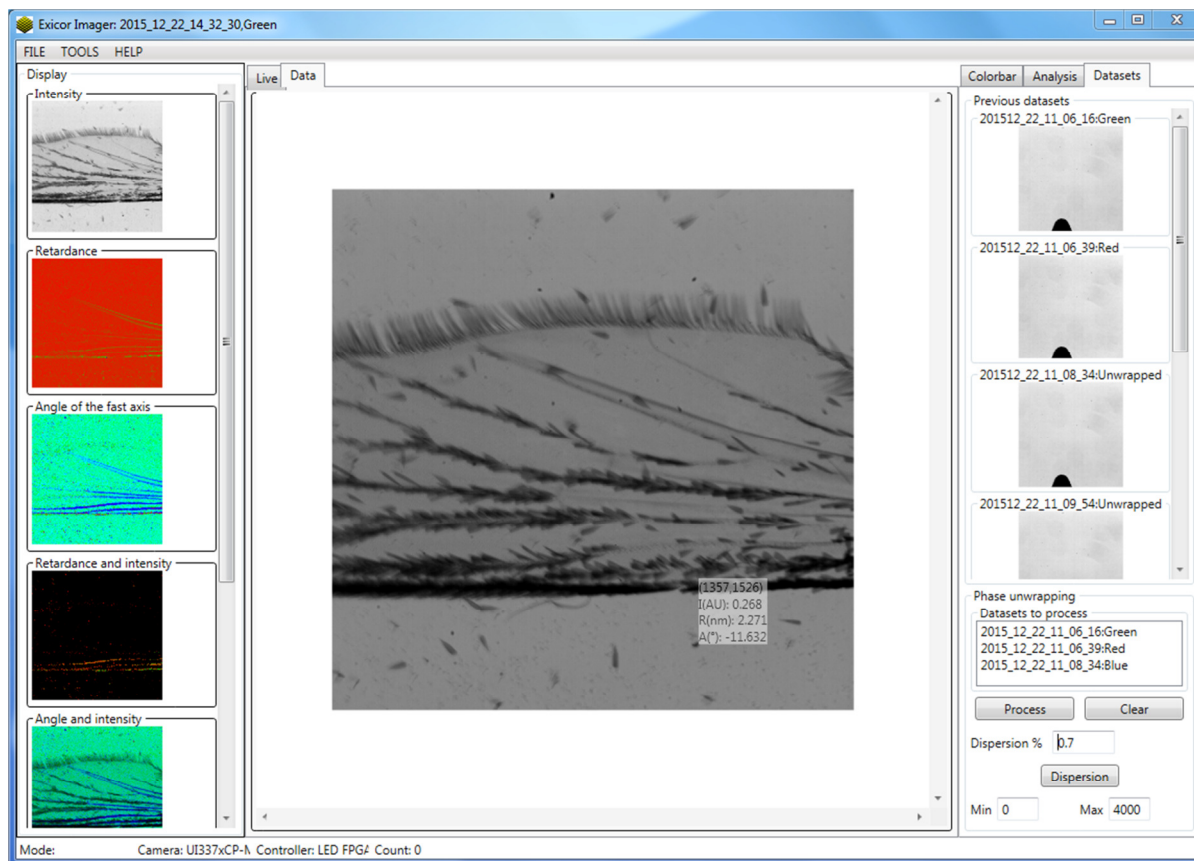

Figure 16 Datasets Window.
3. After clicking on the tab you will set a screen similar to Figure 16.